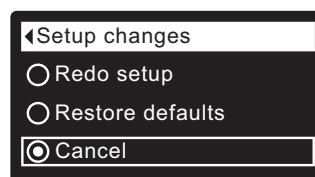

FIG. 91
7. Press the SELECT (O) button to display the Setup changes menu (See Figure 91).
8. If the desired option already has a dot next to it (See Figure 91), go to Step 9. Otherwise, press the DOWN (▼) or UP (▲) buttons to scroll to the desired option, then press SELECT (O) to choose it.